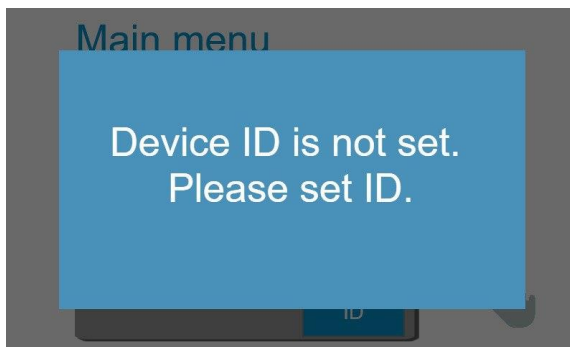

Figure 14 – CAN ID menu
7. If you tap on an additional device whose CAN ID is not entered, an error message will appear (Fig. 14).